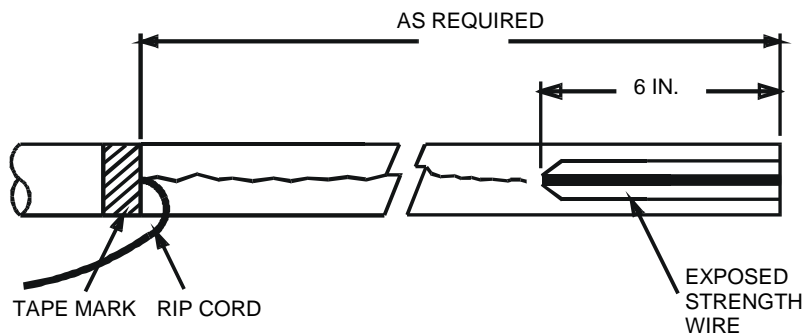

Figure 4 – Open the outer cable jacket.
1. Consult the closure instructions for the length of cable jacket that must be removed. Place a tape mark at the required length from the end of the cable (Figure 4).
3. At the end of the cable, shave off about 6 inches of the outer jacket to expose the strength members and ripcords (Figure 4).
4. Pull each ripcord through the outer jacket to the tape mark (Figure 4).